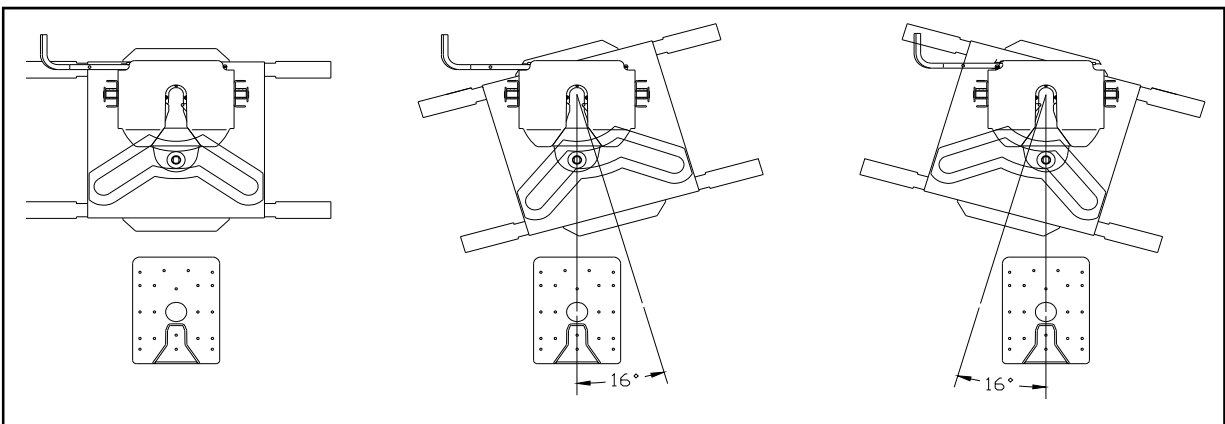

Figure 6
1. Align your truck with the center of the trailer. The truck should be close to parallel to the centerline of the trailer. Hitching can only be accomplished when the tow vehicle and the trailer are aligned within 16° of each other (**Figure 6**).
1. Once you have the trailer located and are ready to unhitch, (**unhitching can only be accomplished when the truck and trailer are aligned within 16 degrees of each other see Fig. 6 page 6**), block the trailer wheels so it will not roll back or forward. Back into the blocked trailer slightly and set the parking brake while you are still in gear. This action will relieve pressure on the lock mechanism before attempting to release the latch mechanism.